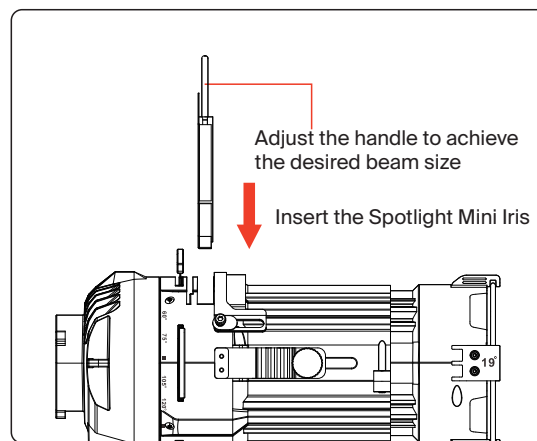

Figure 8
- 1) Insert the M-size Iris into the Iris slot on the Spotlight Mini in **Figure 8**.